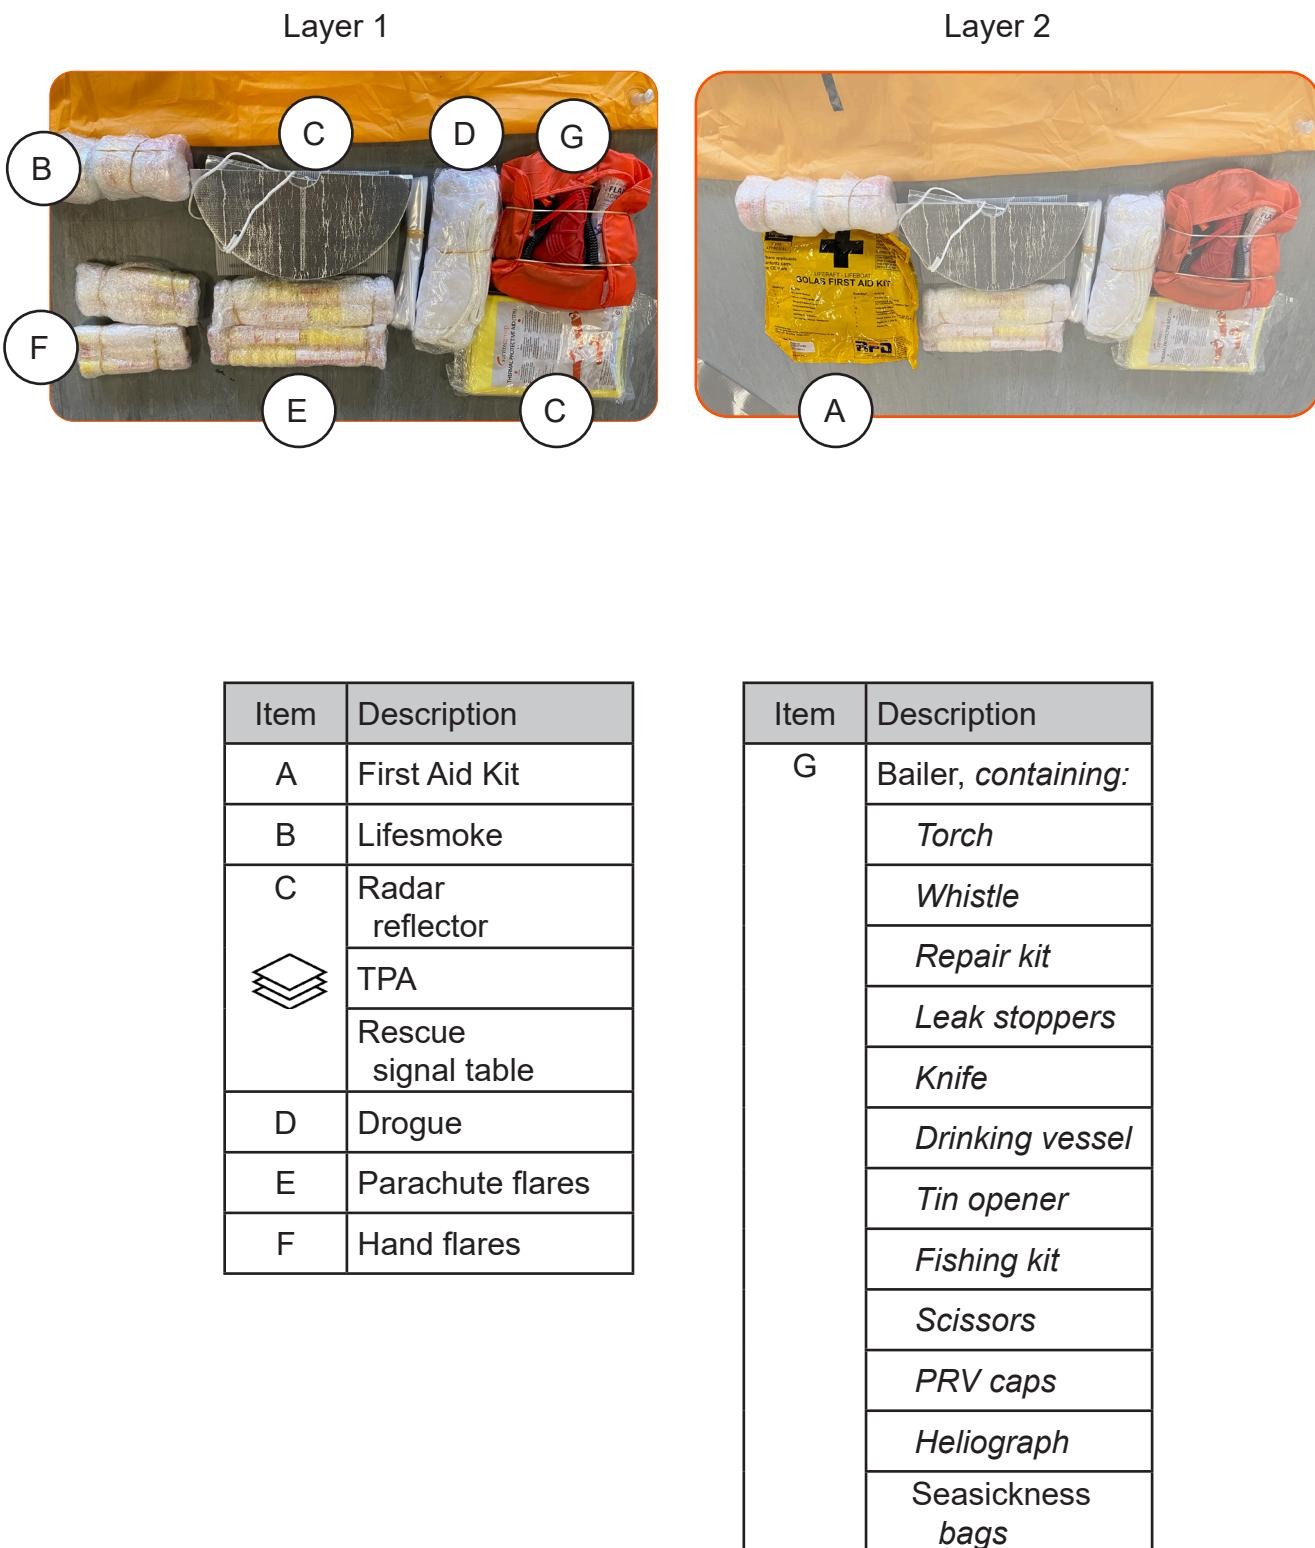

FIGURE 729
- (ii) Refer to Figure 729 or the specific configuration of the survival aids in the equipment bag.